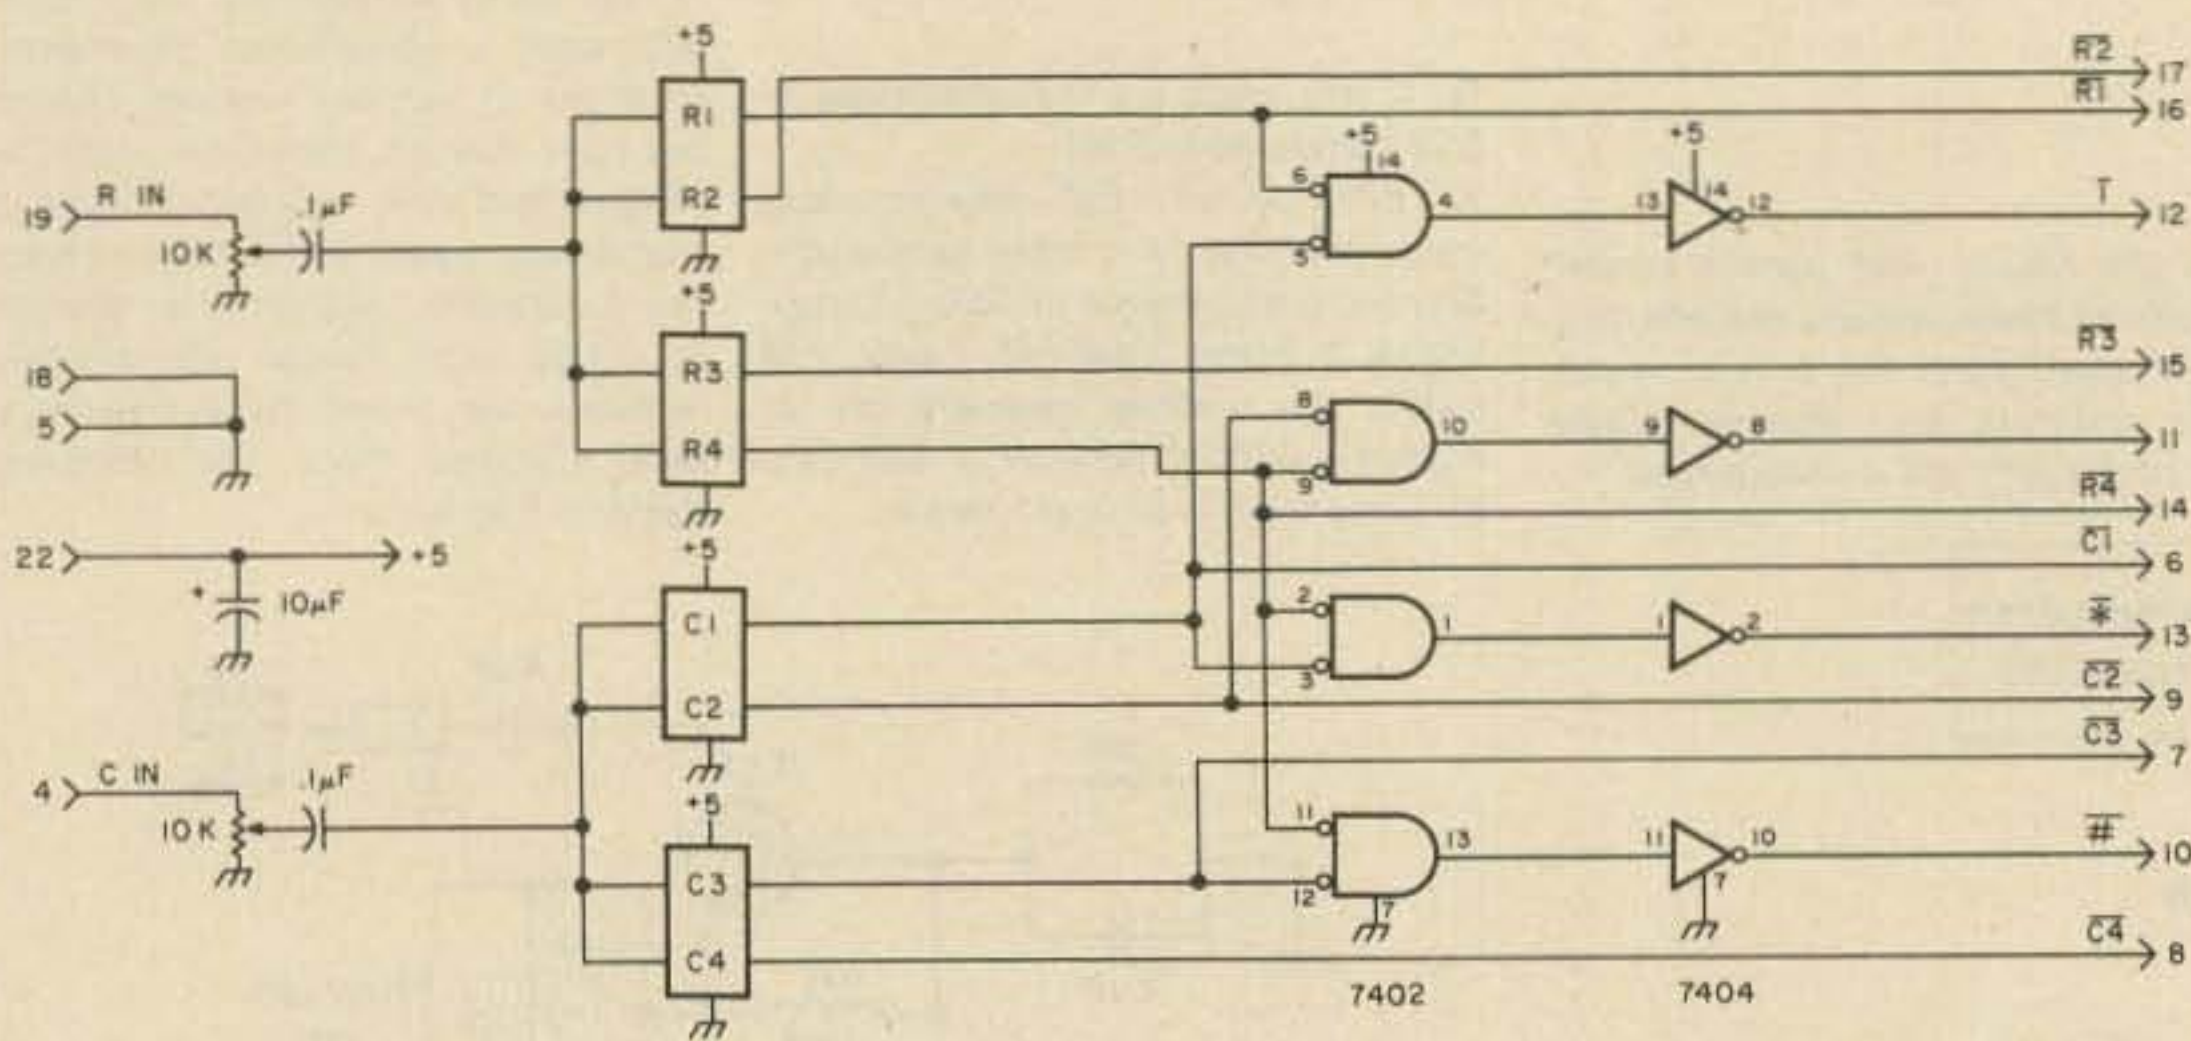

Fig. 1. Decoder board with NAND gating to supply all rows, all columns, *, #, 1, and 0.
I designed the decoder around the EXAR XR2567 IC chip because it is a dual decoder and costs only slightly more than a single 567 decoder. The decoder board uses four of these chips to decode the four rows and four columns of the standard 16 button pad. (See Figs. 1 and 2.) There is some "AND" gating done to get (*), (#), (1) and (0). These four, plus all rows and columns, are